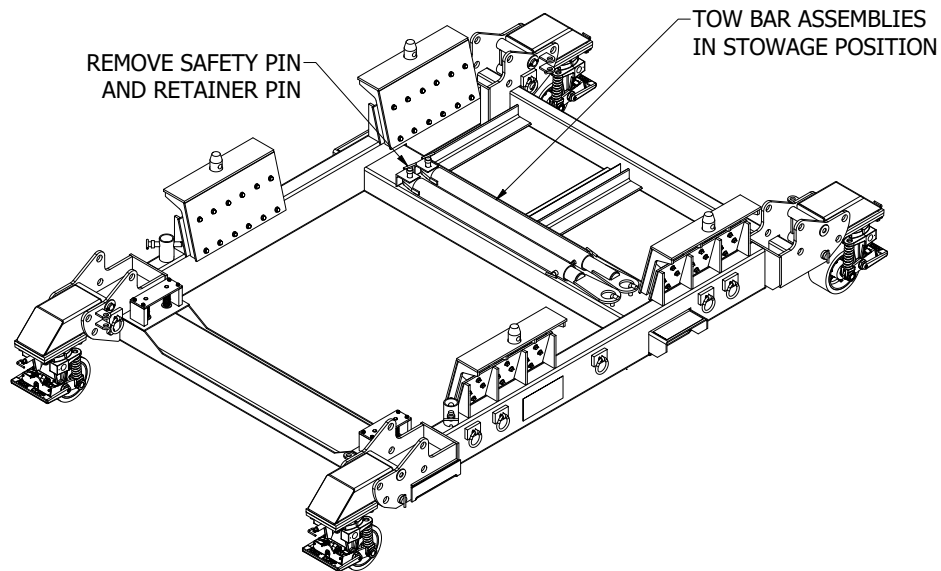

Figure 4.3-1
- 2). Locate two removable telescoping tow bar assemblies that are on the base. Remove the safety pins and retainer pins to remove the tow bar assemblies from storage position. (Figure 4.3-1).